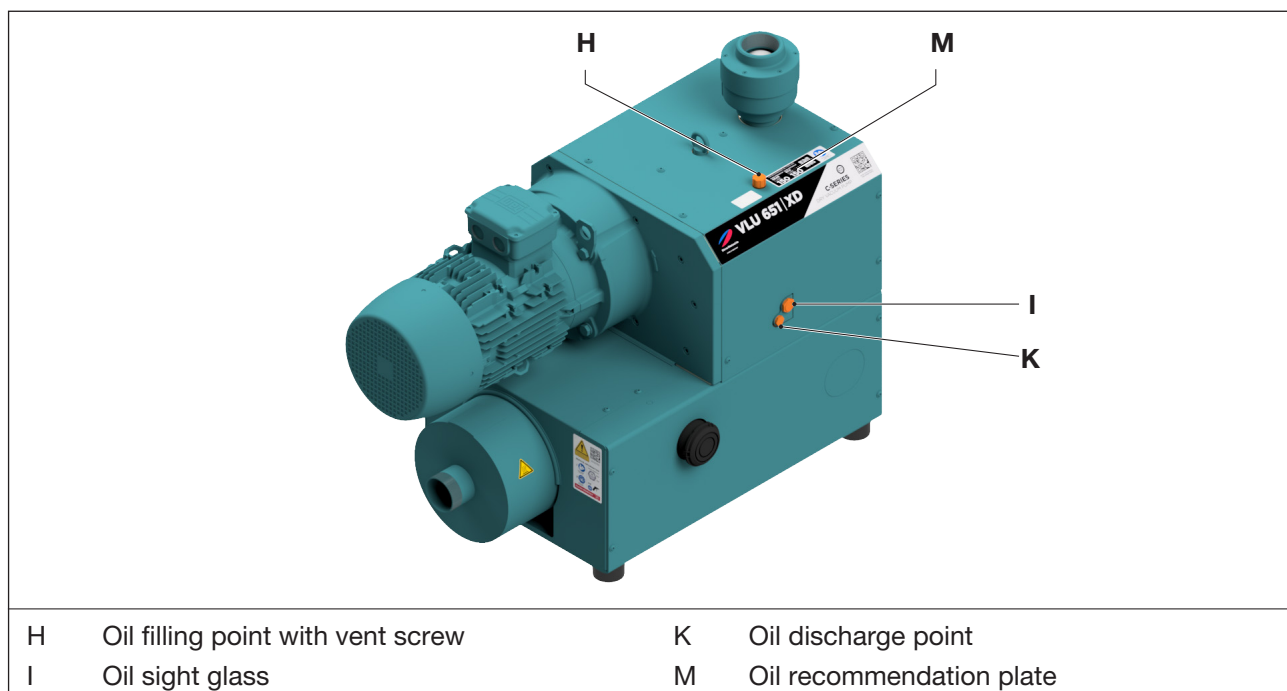

Fig. 5 Oil change
As operating agent, we recommend Elmo Rietschle oils, see the recommendation for on plate (Fig. 5/M) as well as Tab. 3 on page 31:
Check the oil level in the sight glasses (Fig. 5/I) every month.
- Open the cap of the oil filling point (Fig. 5/H) and refill oil until it reaches the upper edge of the sight glass (Fig. 5/I).
- Open the cap of the oil filling point (Fig. 5/H), open the oil discharge point (Fig. 5/K) and completely discharge the used oil.
- Close the oil discharge point (Fig. 5/K) and fill in new oil through the oil filling point (Fig. 5/H). Check the oil level in the sight glasses (Fig. 5/I).
- Close the screw in the oil filling point (Fig. 5/H).